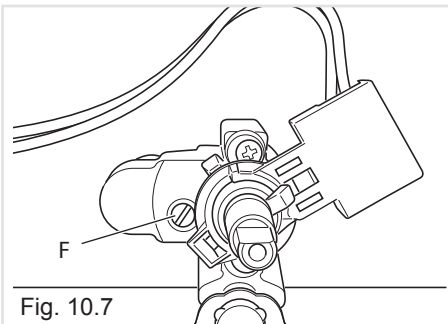

Fig. 10.7
- With a thin screwdriver turn the screw "F" until adjustment is correct (fig. 10.7).